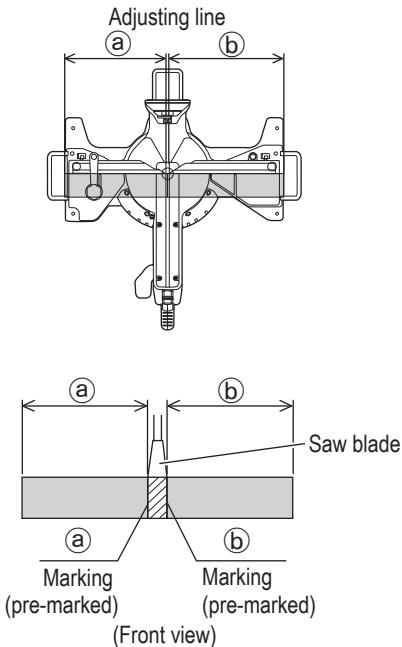

Fig. 33
- (1) As shown in Fig. 33 the width of the saw blade is the width of the cut. Therefore, slide the workpiece to the right (viewed from the operator's position) when length (b) is desired, or to the left when length (a) is desired.